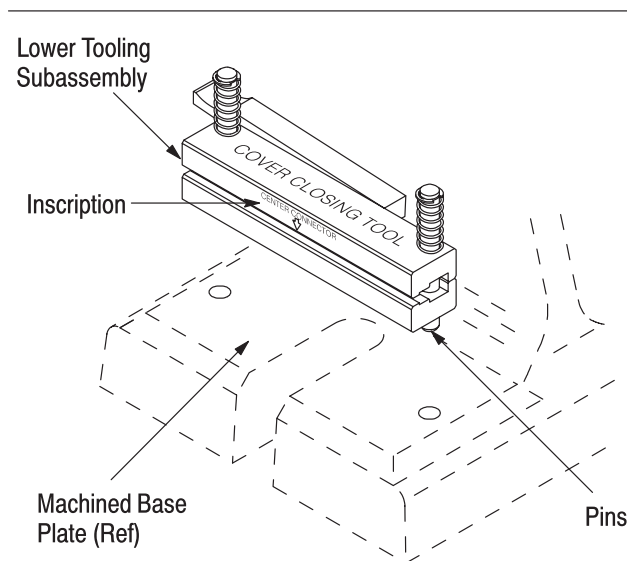

Figure 3
4. Locate the lower plate of the staple inserter kit by inserting the pins into the machined base plate similar to Figure 3.